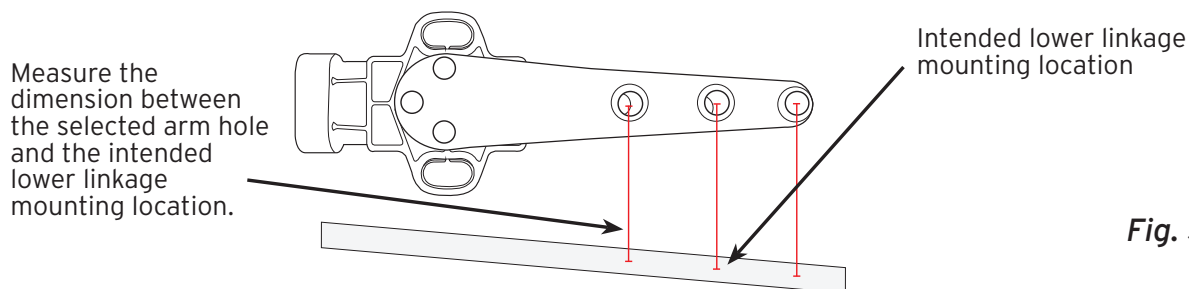

Fig. 3
2. Mark the intended sensor mount location on the vehicle to maintain consistency in measuring methods in the next several steps. After finding a potential sensor location, you will need to measure the suspension travel, which will determine the proper arm hole. Exhaust the air springs, disconnect the air lines and jack up the suspension to its lower limit position. Take the measurement between the selected sensor arm hole with the arm at its midpoint and directly below the intended lower linkage location (Fig. 3).